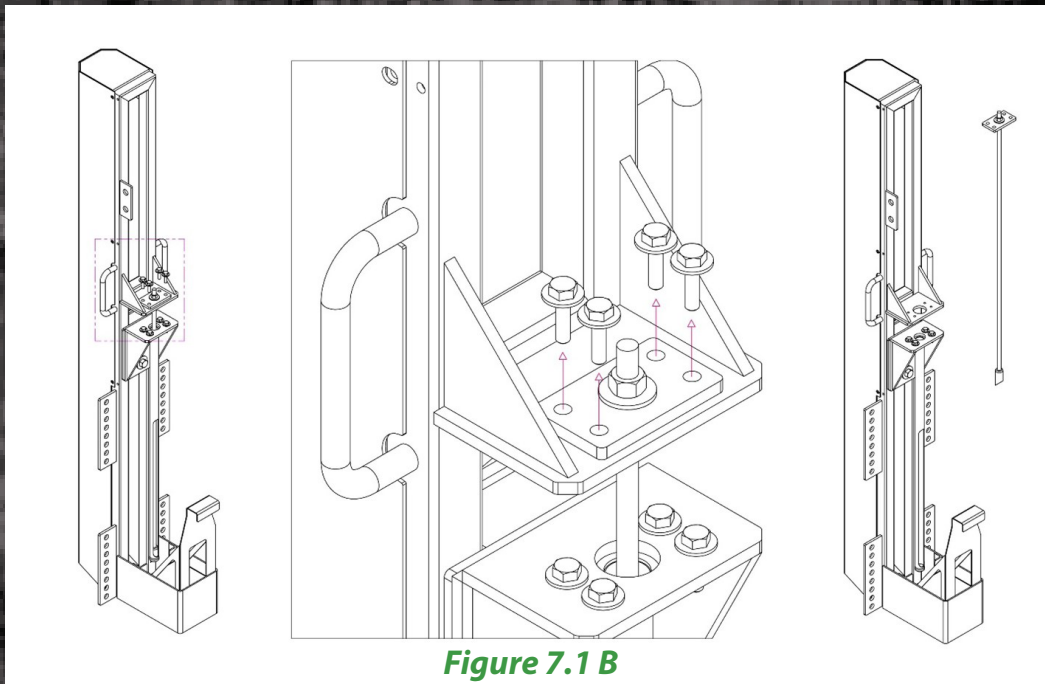

Figure 7.1 B
- Lift the plunger rod vertically until the tip clears the plunger mounting plate. See *Figure 7.1 B*.